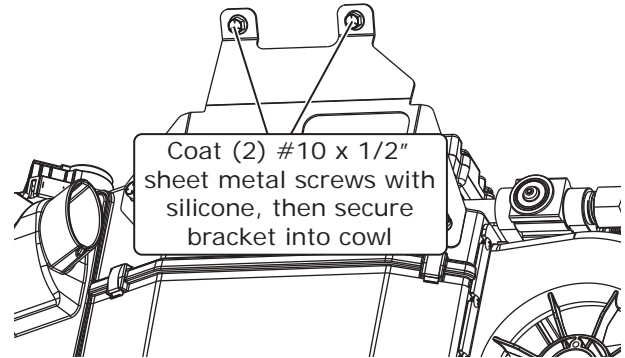

Figure 5
- Lift unit into position. Using the dash mounting bracket as a template, mark and drill (2) pilot holes into the cowl. Coat (2) #10 x 1/2" sheet metal screws with silicone, then secure the bracket into the cowl (See Figure 5, below).